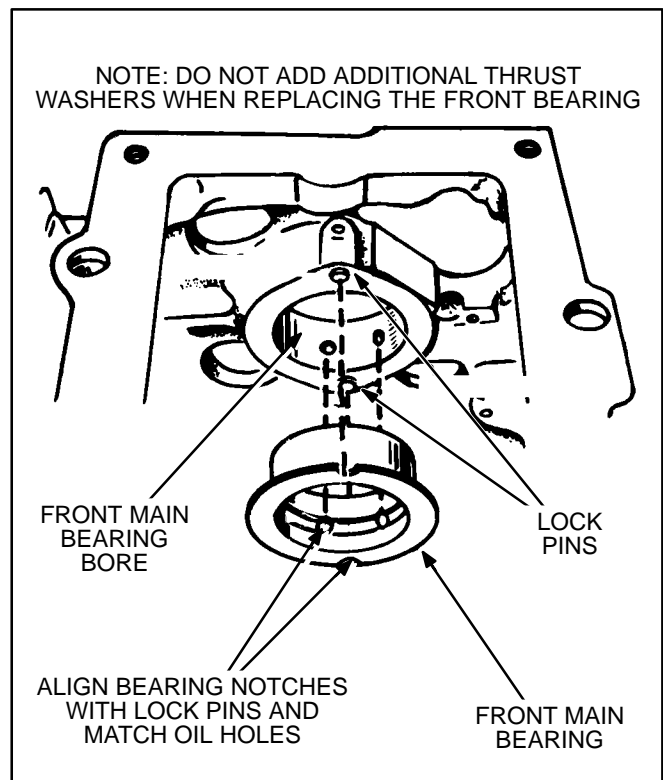

FIGURE 90. FRONT CRANKSHAFT BEARING
2. Use oil or gear lubricant to hold the front thrust washer in place against the engine block (see Figure 90). The flat side of the thrust washer goes against the block.
Use the special driver available to drive in the front bearing. Push the bearing in to the depth allowed by the flange on the driver. Wipe off any excess Loctite and allow one hour for hardening at room temperature. See Figure 90.